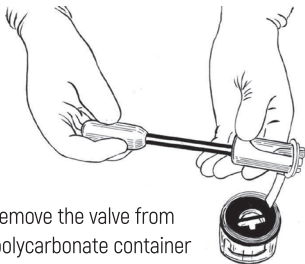

Figure 6: Remove the valve from the inner polycarbonate container
4. Remove the valve with the Holder from the inner polycarbonate container (Refer figure 6).